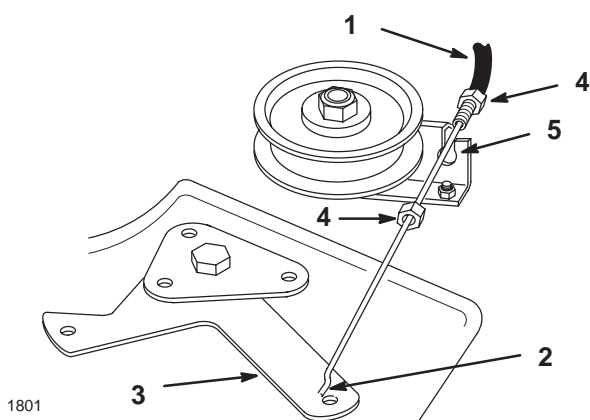

Figure 17
5. Unhook the PTO cable Z end from the idler arm on the mower (Fig. 17).
6. Remove the jam nut from the PTO at the mounting bracket. Slide the cable from the bracket and install the jam nut for safekeeping (Fig. 17).